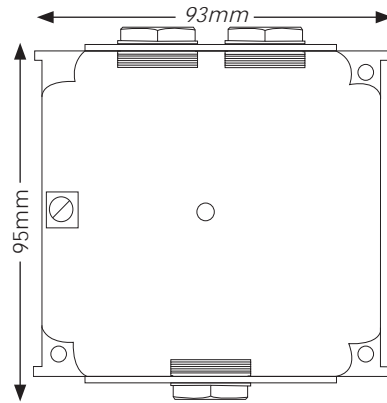

Fig 1 Backbox
1. Fit the backbox to a flat surface using the three fixing holes and screws provided. The cable entry holes should be in the vertical plane. The backbox can be mounted with either the single or double entry holes at the top (Fig 1).